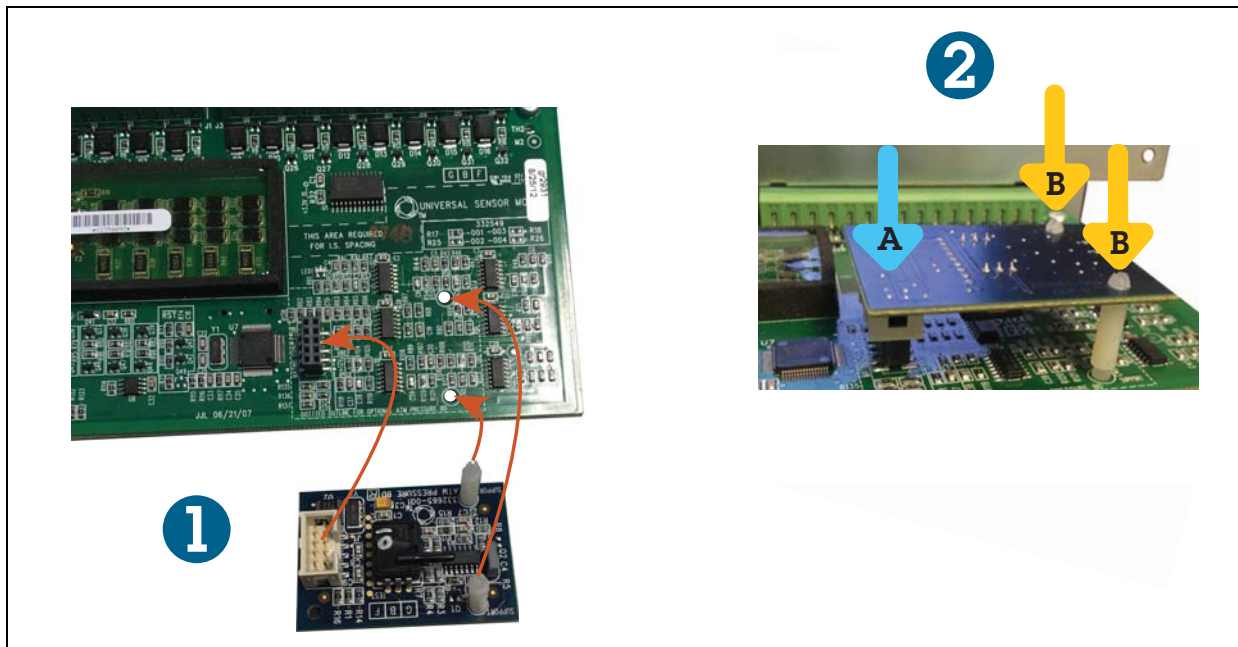

Figure 5. Attaching ATM Pressure Board Onto USM Module
6. Align the male connector and two support posts of the ATM Pressure board over the female mating connector and two support post holes of the USM module board (image 1 of Figure 5).
7. Press firmly down on the ATM board at the 'A' arrow to seat the ATM/USM board connectors. Press down at each of the 'B' arrows until you hear a click to secure the ATM board onto the USM board (image 2 of Figure 5).